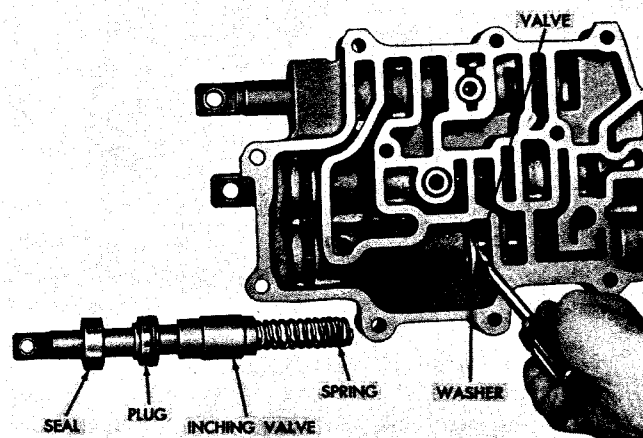

Fig. VI-5. Removing (or installing) inching valve washer—later model
(3) Using a small screwdriver, push the inching regulator valve forward in the valve body and remove washer 37 retaining it (fig. VI-5).
(11) Push the inching regulator valve forward against the spring and install the washer which retains it (fig. VI-5).
(12) Install seal ring 44 (B, foldout 15) onto plug 43. Install the plug, flat side first, onto the stem of the inching control valve.
(13) Install spring 41 into the recessed end of the valve.
(14) Install the inching control valve, spring and plug into the valve body. Push plug 43 into its bore in the valve body (fig. VI-5) and install valve stop 38 (B, foldout 15).
(15) Install oil seal 45, spring-loaded side inward and press it flush to 0.030 inch below the end-surface of the valve body.